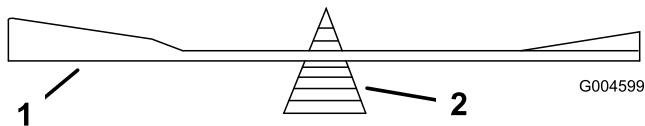

Figure 38
- 2. Check the balance of the blade by putting it on a blade balancer (Figure 38). If the blade stays in a horizontal position, the blade is balanced and can be used. If the blade is not balanced, file some metal off of the back side of the blade. Repeat this step until the blade is balanced.